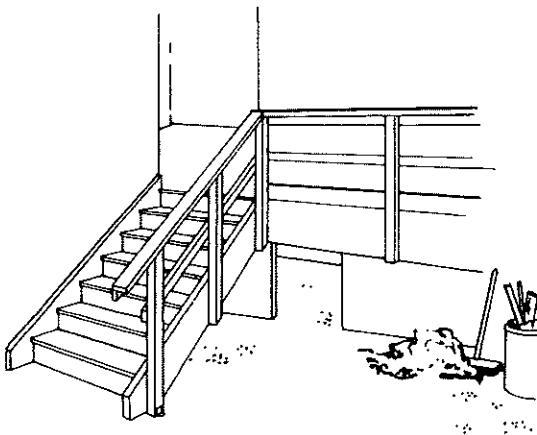

Figure 25-1: Keep Stairs and Landings Clear and Well-Lit
- Work and travel areas kept tidy, well-lit, and ventilated (Figure 25-1)